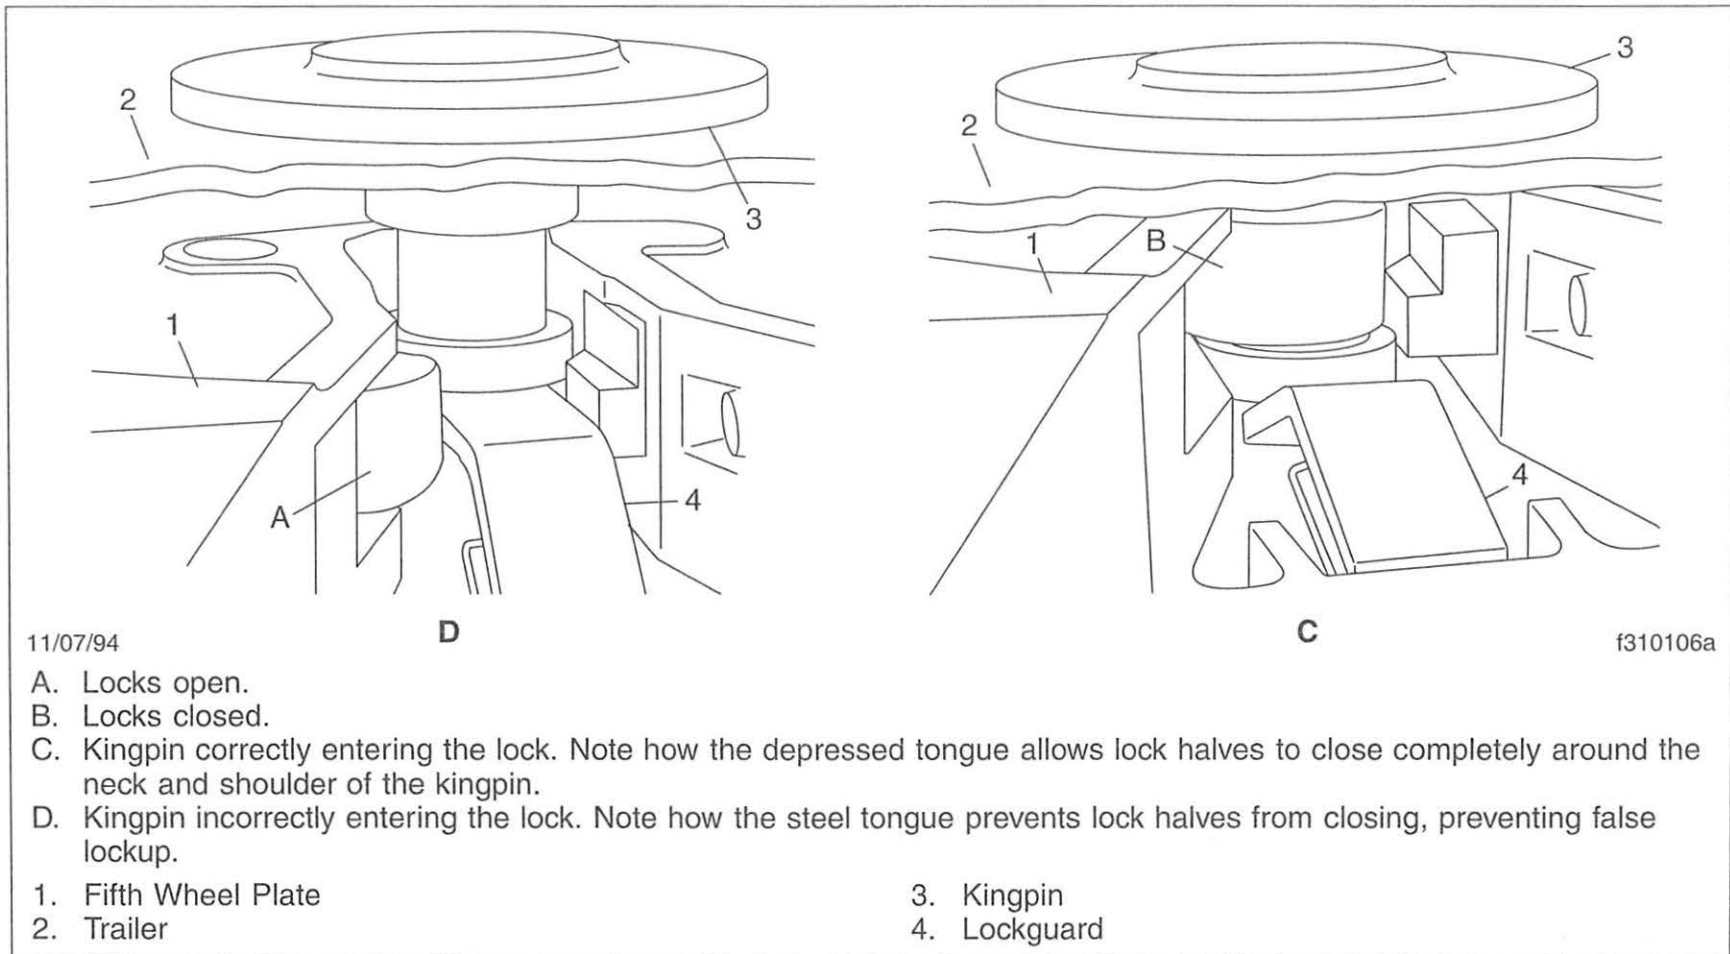

Fig. 10.5, Lockguard Mechanism (rear view)
3. Position the tractor so that the fifth wheel lock opening is in line (both vertically and horizontally) with the trailer kingpin. The kingpin should be in a position to enter the throat of the locking mechanism, to prevent a false lockup. See **Fig. 10.5**. Adjust the trailer landing gear to give enough alignment height so that the fifth wheel picks up the trailer on the fifth wheel ramps.